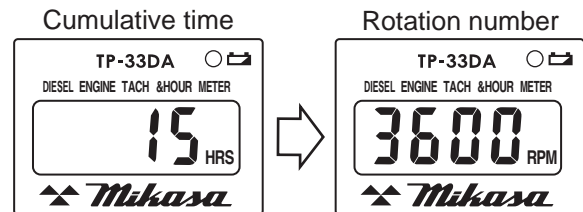

Figure 19. Hour Tachometer (Rotation Number)
10. During operation, the hour tachometer displays "rotation number" (Figure 19).